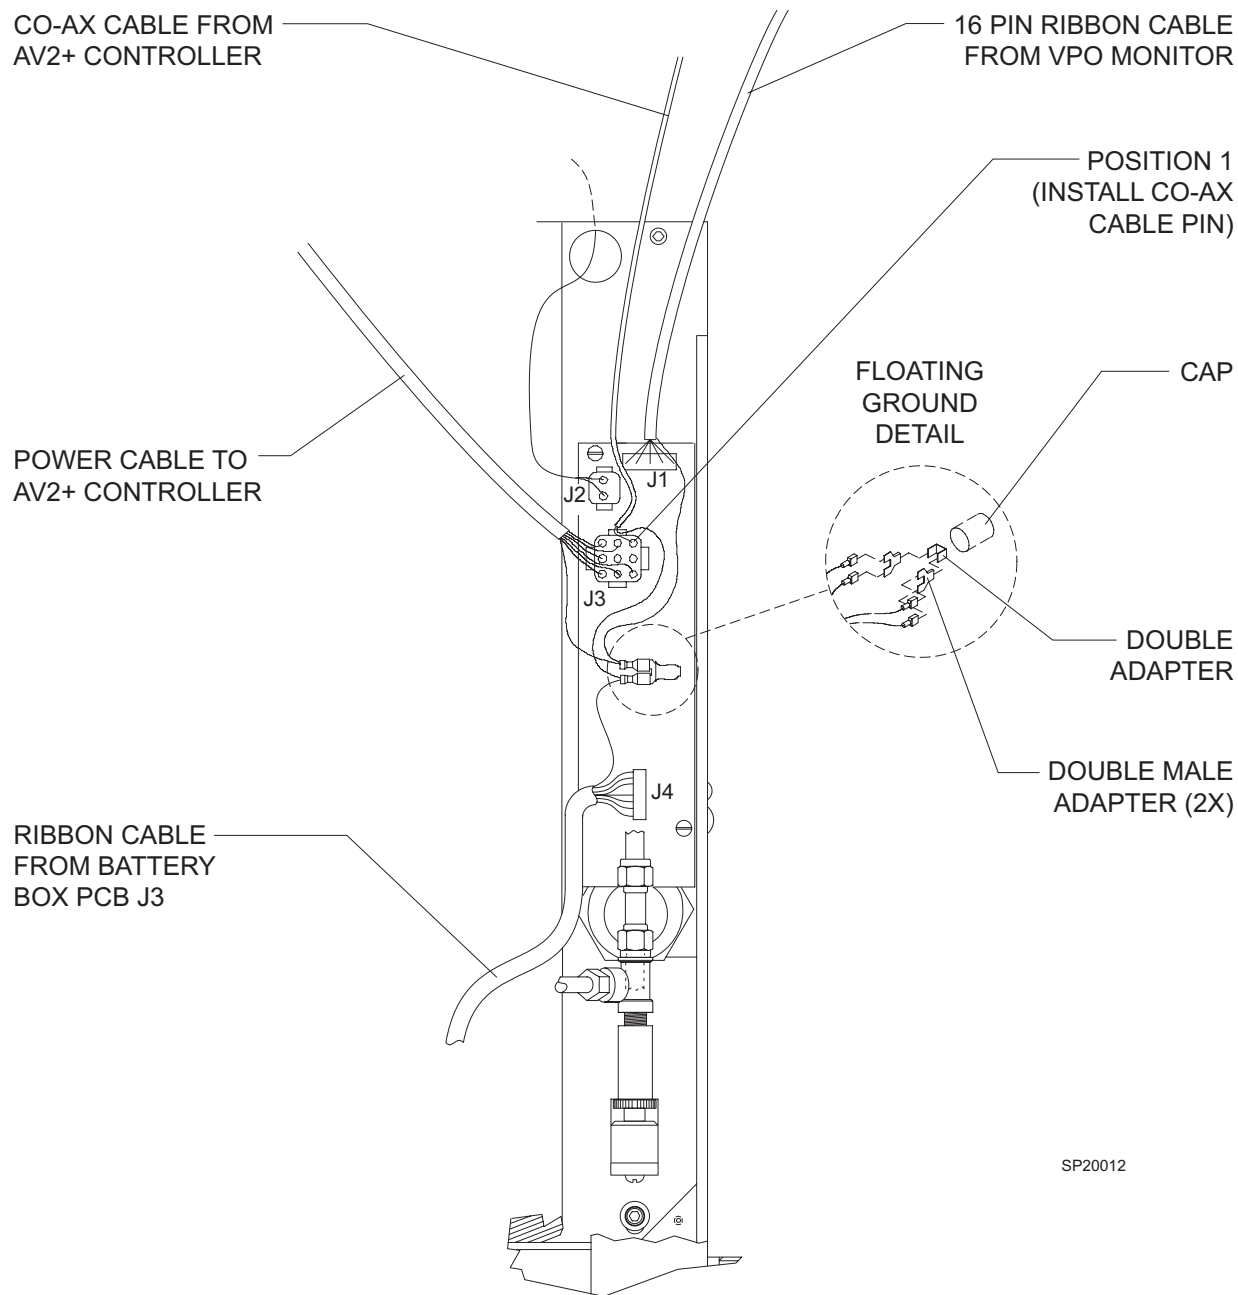

FIGURE 12. New Alarm Channel Connections
69. Install the pin at the end of the co-ax cable into Position 1 on the 9-pin connector at J3 on the alarm channel (Position 1 is the only open corner position). Ensure that the pin clicks into position and is secure in the connector. See Figure 12.
84. Connect the shielded ribbon cable to J4 on the alarm channel PCB. See Figure 12.
89. At the back of the alarm channel, join the four cable grounds as shown in the floating ground detail in Figure 12, using the double adapter (P/N 4107069) and two double male adapters (P/N 4116404).